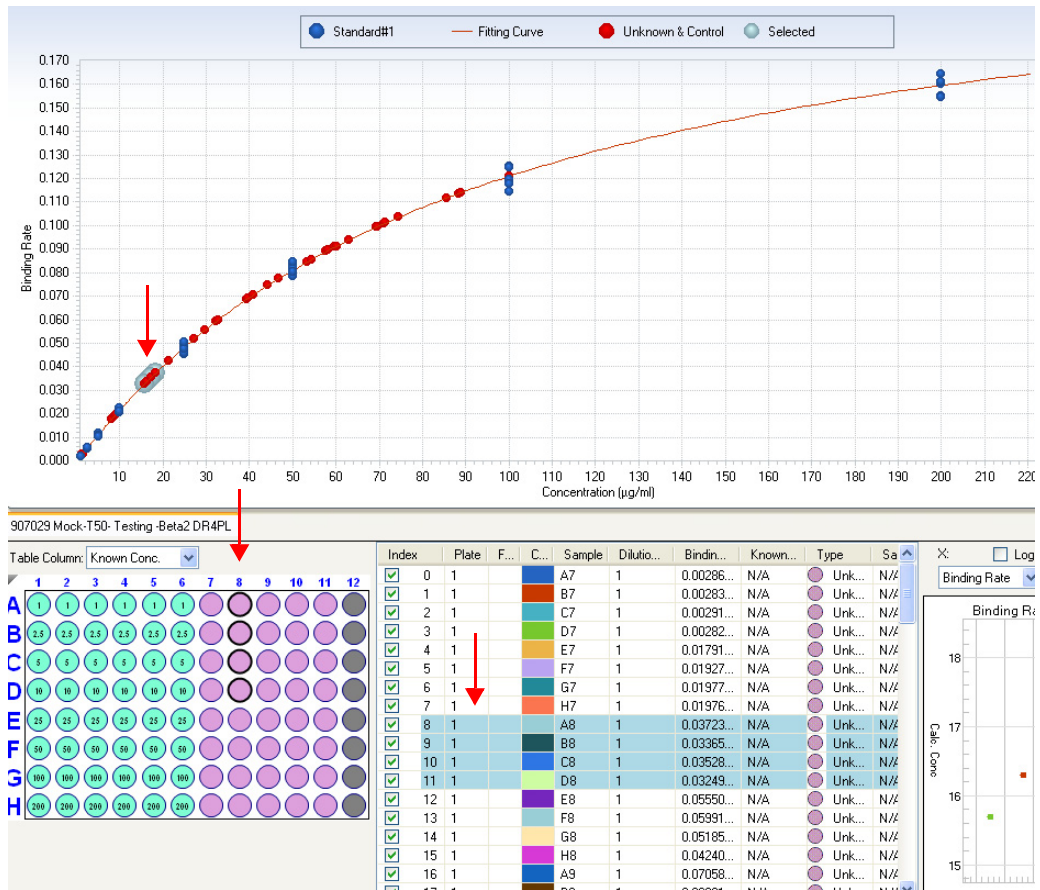

Figure 4-29: Interactive Binding Graph and Group View with Multiple Data Points Selected
- Selecting one or multiple data points either in the Binding Graph, Sample Plate Map, Results Table, X-Y graph, or Group View highlights the corresponding wells in all views (Figure 4-29).